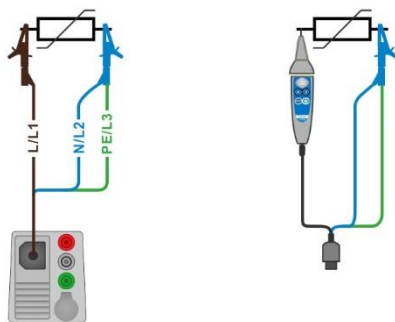
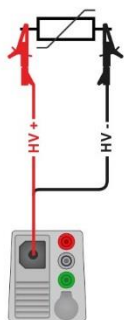

Figure 7.19: Connection of 3-wire test lead and Tip commander (Range: 1000 V)
Figure 7.20: Connection of 2.5 kV test lead (Range: 2500 V)
- › Connect test leads to object under test (see **Figure 7.19** and **Figure 7.20**).